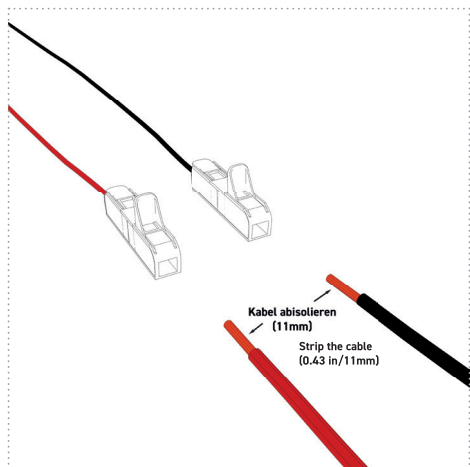

Figure 18
2. Strip the on-board connection cables 11 mm (0.43 in) (Figure 18).
3. Using Tables 17, connect the cable (power supply) of the UV unit to the power supply using the splicing connectors provided in the scope of delivery (Figures 18 and 19).